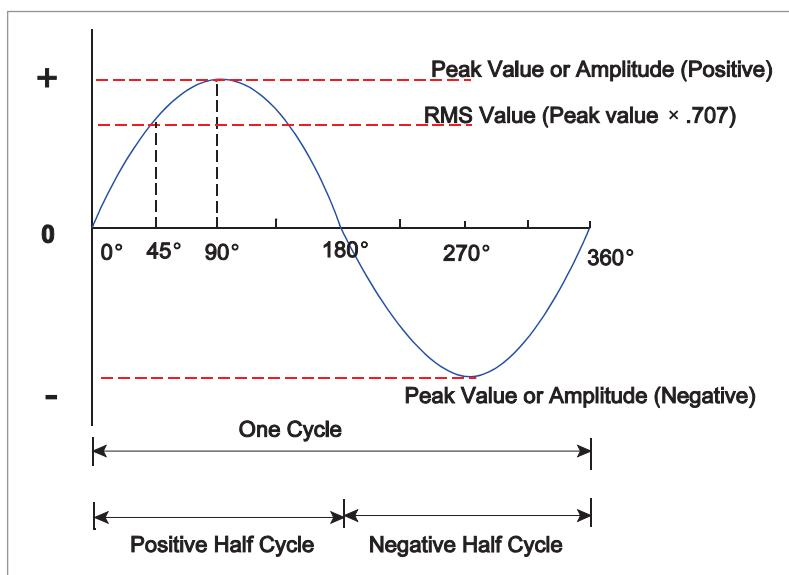

Figure 11.5 AC terminology
- **Amplitude or Peak Value.** The amplitude of a sine wave is the maximum value it attains in one cycle, see *Figure 11.5*.